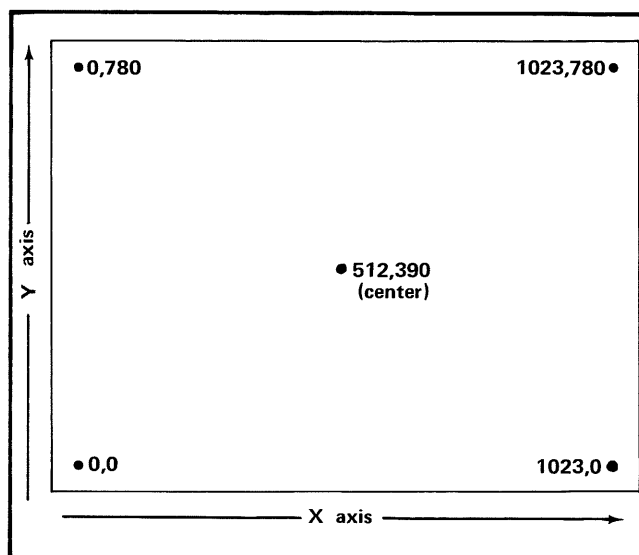

Fig. 3-1. X and Y addressable points for the corners and the center point of the display.
In the Graphic Plot mode, the 4010 uses 1024 addressable points in each axis. 780 of these points are visible in the vertical (Y) axis. Figure 3-1 shows the addressable points for the corners of the display and the center of the display. An ASCII GS character gets the 4010 into the Graphic Plot mode. Vectors are drawn from the old address to the addressed point with the exception of the first vector after entering the Graphic Plot mode. This first vector is always dark (unwritten). Additional dark vectors can be drawn at any time by preceding the address with GS.